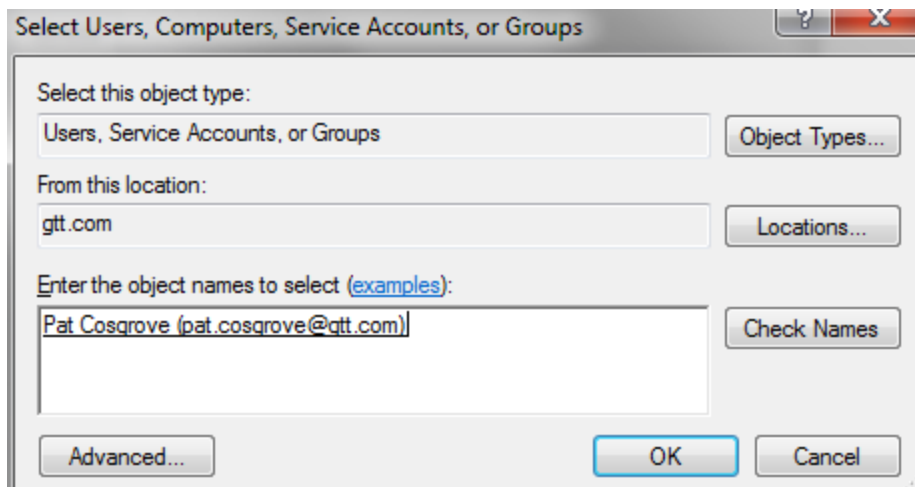

Figure 3-19
- 3) Domain\UserName or Domain\UserName@company.com (Where the domain and company information matches your specific information. See Figure 3-19.